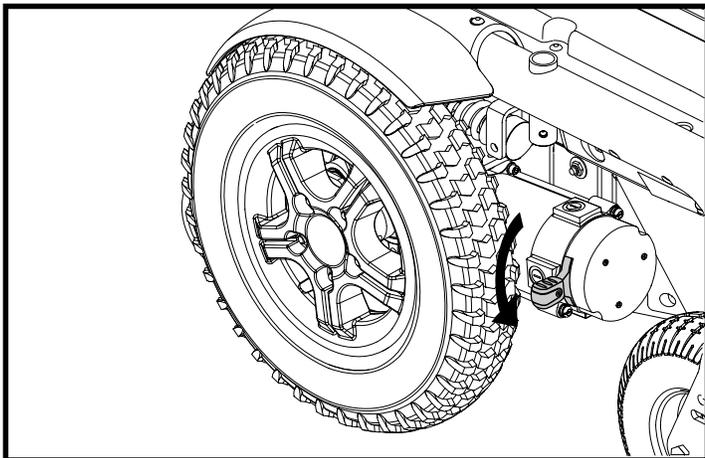

Figure 8. Freewheel Mode (Drive Disengaged) - Hammer and H2 Motors
For your convenience, your power chair is equipped with two manual freewheel levers mounted on the motors. Depending on which motors your power chair is equipped with, you will have one of two possible freewheel levers. See figures 8, 9, 10, and 11. These levers allow you to disengage the drive motors and maneuver the chair manually. You can manually push the power chair by the seatback or push the power base itself if the seat is removed.
1. Pull the manual freewheel levers out or push them down for freewheel mode (drive disengaged). See figure 8 or 10.